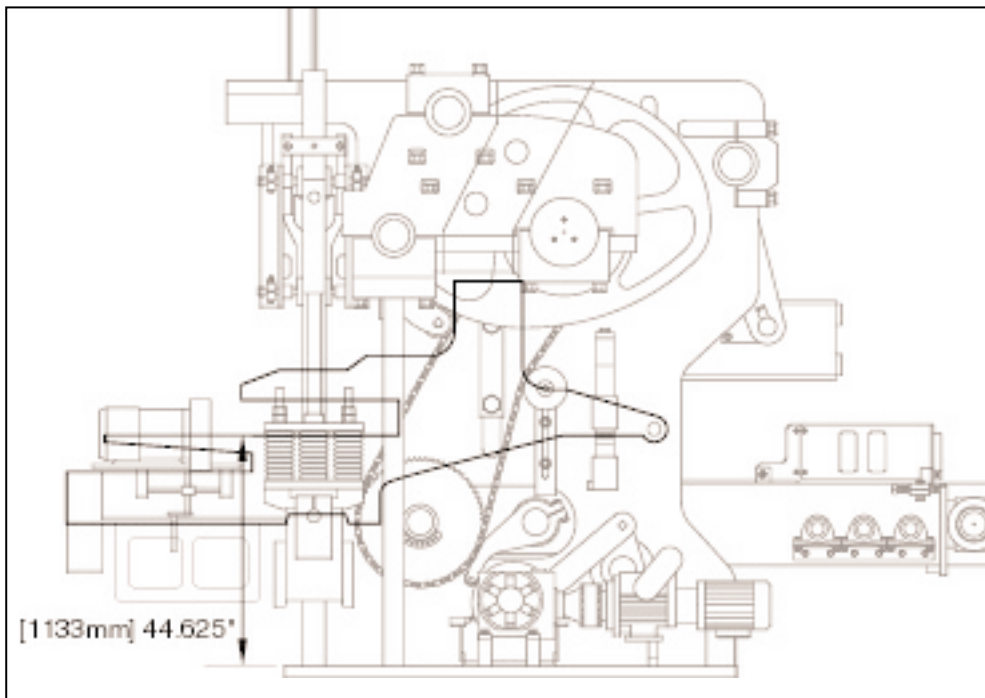

Figure 4.32 INNER FRAME ADJUSTMENT.
4.3.2 Adjust the inner frame so that the mold throat is **1133mm [44.625"]** above the top on the base plate (figure 4.32). **83mm [3.25"]** of spacers are required. To do so, follow these procedures: